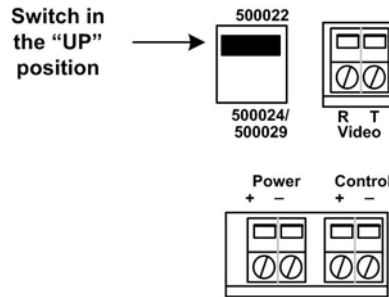

Figure 13: Port Setting – Pass-Thru Mode (500022)
5. In order to transmit video on one (1) twisted pair, remote power on two (2) twisted pairs and control on one (1) twisted pair, set the port switch to Pass-Thru Mode (500022) as shown in figure 13. Ensure that there is a CCTV Pass-Thru Balun (500022) at the camera.